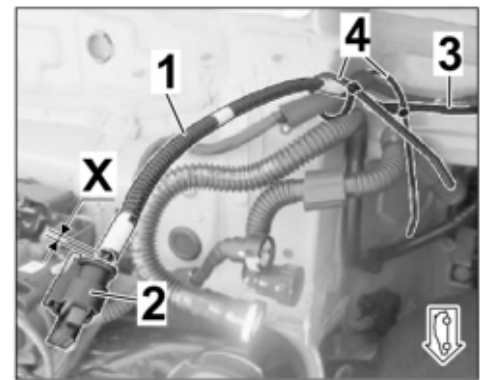

Figure 38
- 3.4.5 Fit corrugated hose 4.5 x 7.6 x X to each branch from a distance of approx. 30 mm from the connector (socket housing 4-pin) to the underbody. ⇒ *Figure 38*